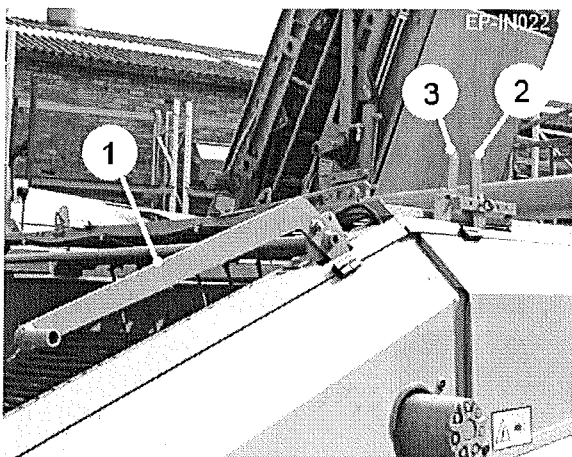
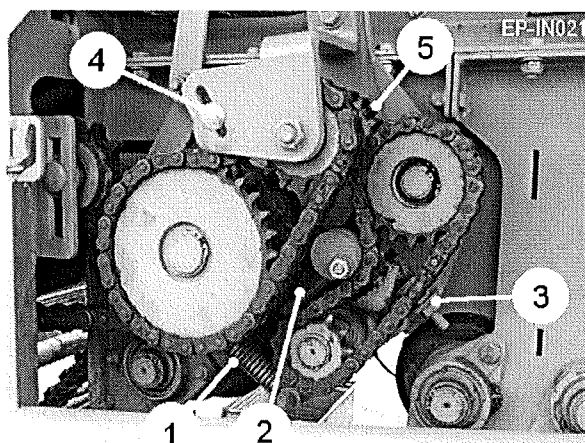
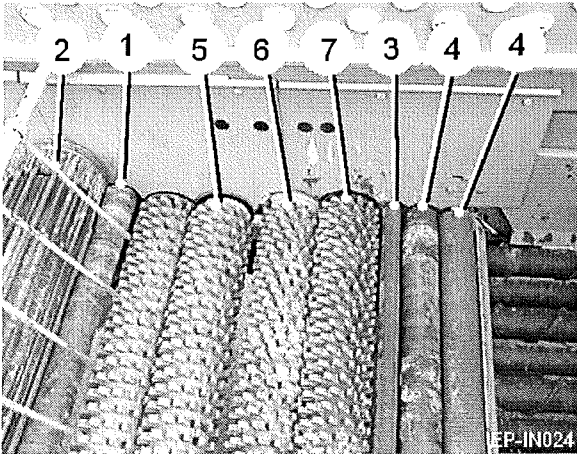
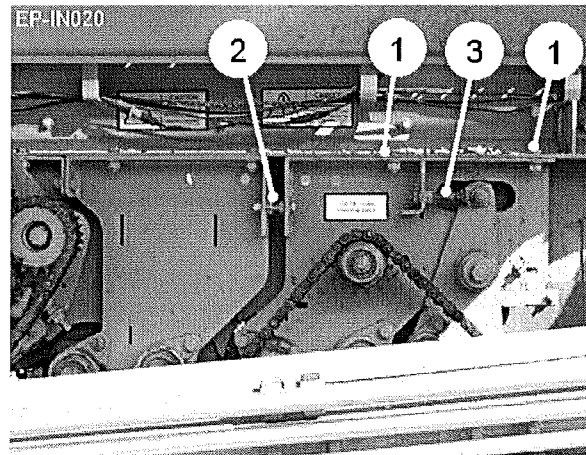

Fig 11
Fig 12
Fig 13
Fig 14
The haulm roller (item 2, figure 13) is designed to pinch the haulm and trash and drop it back onto the ground under the machine. The roller is held in position against the web by spring pressure and the gap between the two is adjustable. A row of haulm guide fingers are mounted above the haulm roller to assist in guiding the haulm into the extraction point.
The over-centre handle (item 1, figure 11) is used to release the spring tension which holds the haulm roller in position against the web. Use the handle to open the rollers if a blockage occurs and also before making adjustments to the roller settings. Always reset the handle before commencing work. To increase the spring tension, adjust the hook bolt (item 1, figure 12).
The over-centre handle (item 1, figure 11) has considerable spring pressure against it. Operate with care.
To adjust the gap between the haulm roller and web, release the spring tension using the over-centre handle, and loosen the clamp bolts locking the bump stop (item 2, figure 12). Adjust the setscrew (item 3, figure 12) to achieve the desired new position. A wider setting is likely to remove smaller potatoes. The optimum setting is to have the haulm roller running just clear of the web bars so as to prevent vibration and give maximum grip to extract haulm. Adjust both sides equally ensuring the roller remains parallel to the web and retighten all bolts. Finally, reset the over-centre handle.
The vertical position of the haulm roller in relation to the web can be adjusted into one of five positions by means of the levers (item 2, figure 11) at either end of the roller. Before adjustment, the nylon chain jockey (item 4, figure 12) mounted on the LH handle must be loosened off. Remove the 'R' clip and pin and reposition the levers. Refit the pins and clips and reset the chain jockey. The haulm roller is fitted with a scraper. Set the scraper as close to the roller as possible without actually fouling it.
For some types of crop it is advantageous to reverse the direction of rotation of the haulm roller. This is achieved by replacing the gear drive (item 5, figure 12) with a chain and sprockets.
The angle of the haulm finger assembly (item 2, figure 13) can be adjusted using the lever (item 3, figure 11). With the lever in the forward position the fingers are lifted out of work. Adjustment should be made so the fingers are lowered sufficiently to guide the haulm into the haulm roller without interfering with crop flow.
The Starflow unit comprises of two pairs of star shafts followed by a clod roller (item 3, figure 13) and two transfer rollers (item 4, figure 13). The button 'Stars'  starts/stops the unit.
The gap between the 2nd star shaft (item 5, figure 13) and 3rd star shaft (item 6, figure 13) can be adjusted so that the amount of separation can be set to suit crop conditions. To adjust, loosen the mounting bolts (item 1, figure 14) and adjust the screws (item 2, figure 14). Ensure the gap is set evenly on both sides of the machine. The gap between the 4th star shaft (item 7, figure 13) and the clod roller (item 3, figure 13) can be adjusted to make the clod roller more aggressive. To adjust, reposition the adjuster (item 3, figure 14). Ensure both sides are adjusted evenly. Three different shaped clod rollers are available, round, hexagonal, and square. The shape of the clod roller affects the level of extraction. The round roller is the least aggressive, while the square roller is the most aggressive. Scrapers fitted to both the clod roller and the transfer rollers should be set as close as possible to the rollers without actually touching them.
For some types of crop it is advantageous to reverse the direction of rotation of the clod roller (item 3, figure 13). This is achieved by replacing the gear drive with a chain and sprockets.